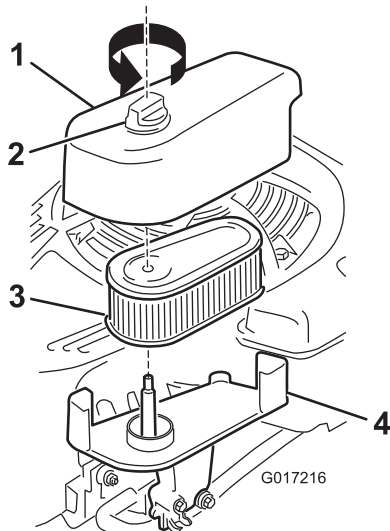

Figure 32
1. Loosen the fastener and remove the cover (Figure 32).